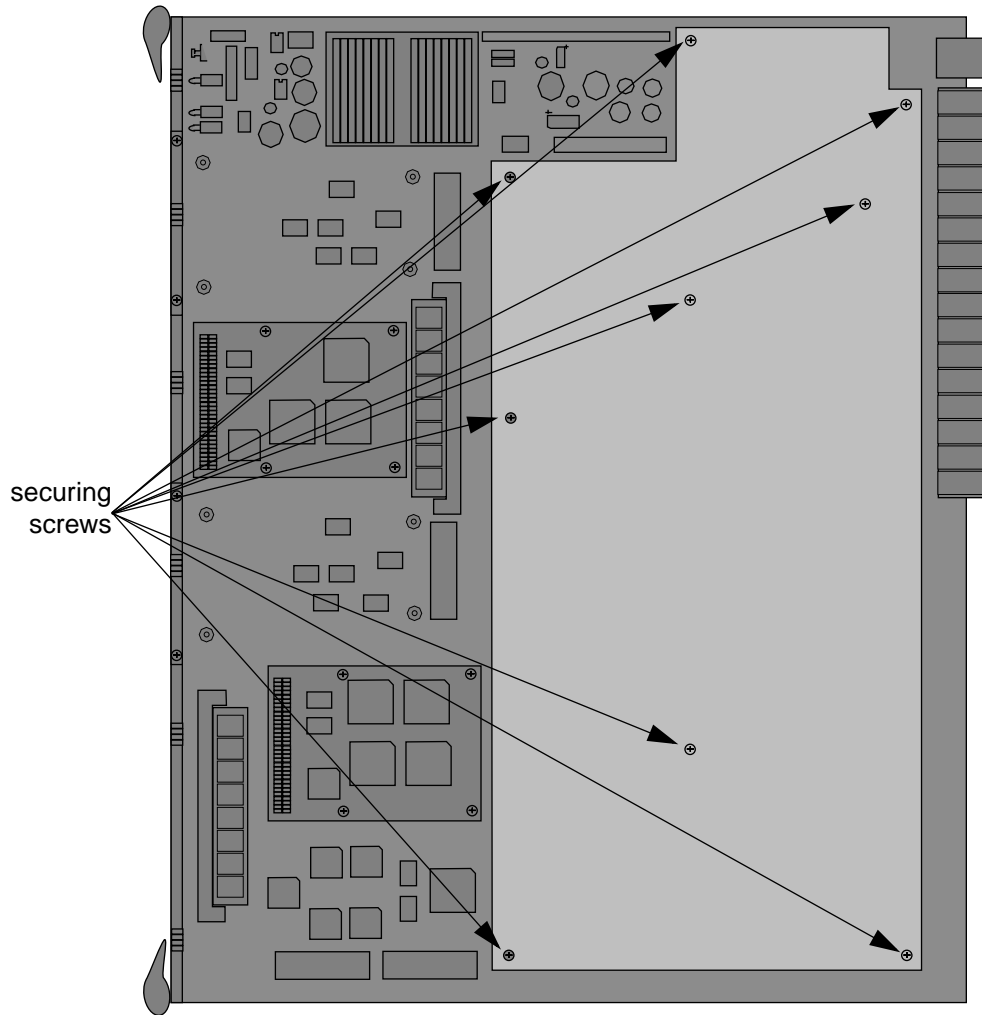

Figure 2-9. Daughterboard Attached to the 9A426-02 Module
2. Locate the daughterboard's nine securing screws (see Figure 2-9).